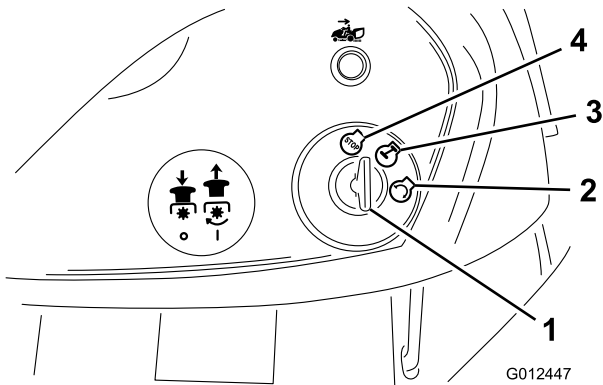

Figure 11
2. Turn the ignition key to the Off position (Figure 11).
7. Turn the ignition key clockwise and hold it in the Start position (Figure 11).